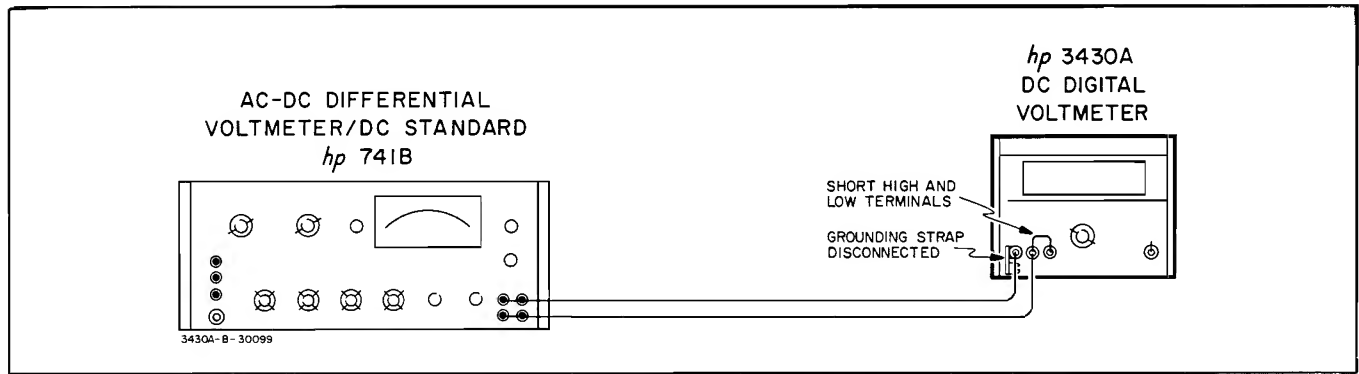

Figure 5-4. DC Common Mode Rejection Check
- a. Connect the 3430A as shown in Figure 5-4.